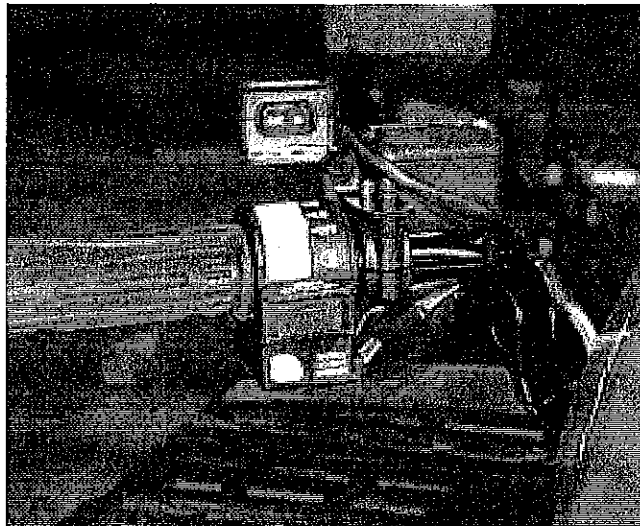

figure 9
13. Attach switch to the switch bracket as indicted in figure 9 and the illustration on page 3. The hardware to attach the switch housing to the bracket will be located with the switch brackets located in the winch hardware kit.